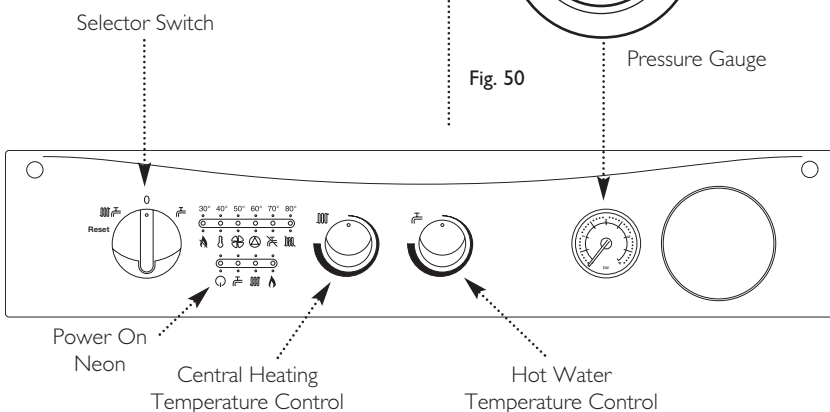

Fig. 51
2. Set the temperature controls to maximum and the selector switch to the Off position (Fig. 51).
5. Turn the selector switch fully anticlockwise against the spring pressure to the reset position and hold for 2 seconds to reset the boiler (Fig. 51).
6. Turn the selector switch to the Central Heating and Domestic Hot Water position (☀️). The power On neon (💡) will illuminate (Fig. 51).